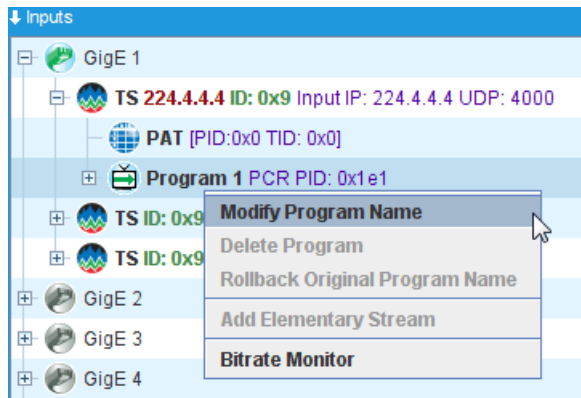

Figure 132. Program Pop-Up menu - Modify Program
2. Right-click on the program and choose **Modify Program Name** from the popup menu. (Figure 132).